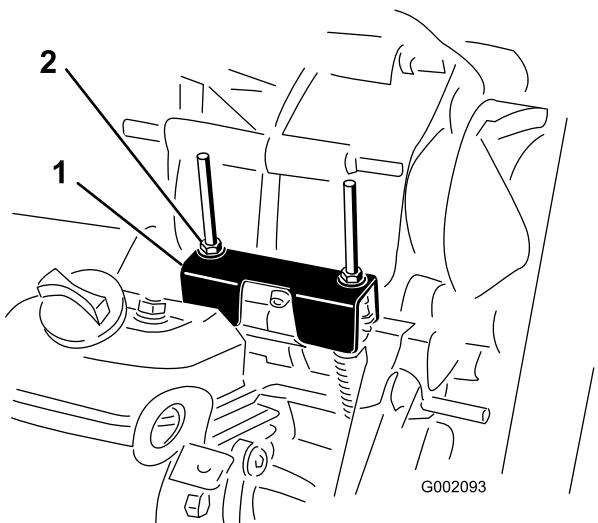

Figure 48
When performing routine maintenance and/or engine diagnostics, the transaxle must be shifted into neutral (Figure 48). The vehicle has a neutral position on the shift lever, which controls the neutral in the transaxle. The following steps should be taken to make sure that the neutral shift lever operates the transaxle neutral correctly:
2. Ensure that the neutral bracket is in the neutral position (level to the cable mounting bracket located below the shift bracket) by turning the driven clutch (Figure 48).
3. Rotate one of the locknuts (Figure 48) to achieve a 0.762 to 1.524 mm (0.030 to 0.060 inch) gap between the bottom of the nut/washer and the neutral bracket.